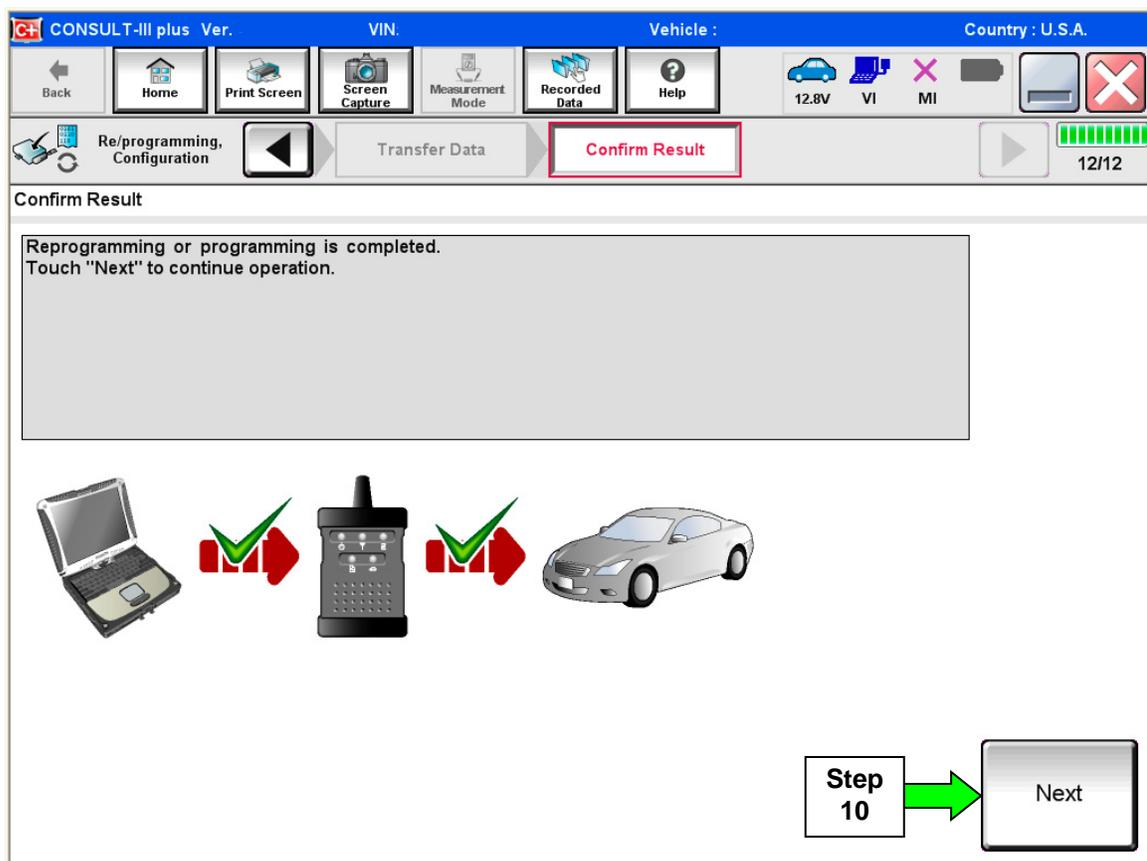

Figure 4
8. When the screen in Figure 4 displays, reprogramming is complete.
**NOTE:** If the screen in Figure 4 does not display (indicating that reprogramming did not complete), refer to the information on page 8.